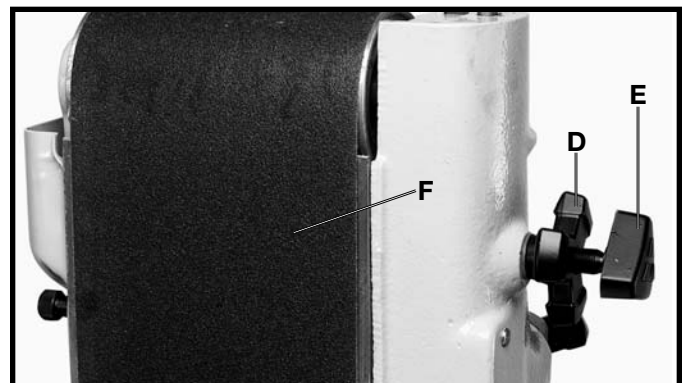

Fig. 14
- (1) The belt should be flat on the platen.
- (2) The belt should be sufficiently tensioned to prevent slipping on very heavy work. For ordinary work, a tension just sufficient to take the curl out of the belt is recommended.
3. Loosen tracking lock knob (D) Fig. 14, and while rotating the belt (F) by hand, tighten or loosen tracking knob (E) until the belt is running true on the pulleys.
4. Then jog the machine on and off to check further if the belt is tracking properly. If the belt is leading to one side or the other, very gently turn the tracking knob (E) Fig. 14, clockwise to move the belt toward the adjusting screw and counterclockwise to move the belt away from the adjusting screw while jogging the machine on and off.
5. A final adjustment can be made with the motor running. **THIS ADJUSTMENT IS USUALLY VERY SLIGHT.** After the belt is tracking properly, tighten the lock knob (D) Fig. 14, being careful the adjusting screw (E) does not turn.